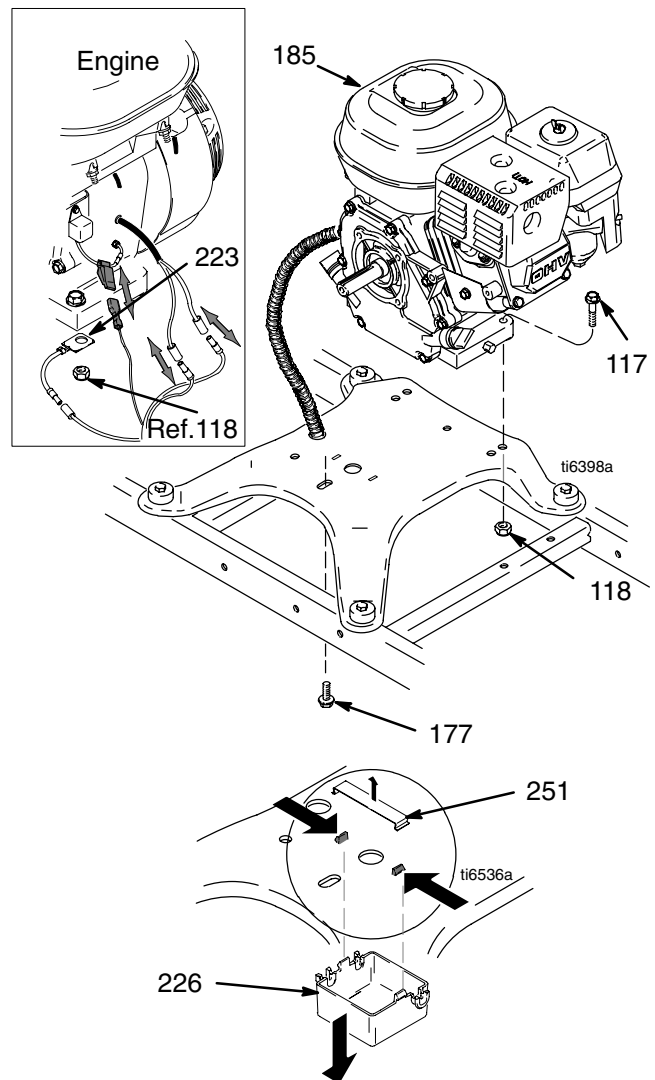

Fig. 12
2. Fig. 12. Remove clip (251) and junction box (226).
13. Fig. 12. Install junction box (226) with clip (251).
4. Fig. 12. Remove screw (177). Remove two screws (117), locknuts (118), and ground conductor (230, 260) from base of engine (185).
2. Fig. 12. Install two screws (117) and ground conductor (223, 260) in base of engine and secure with locknuts (118). Torque to 20 to 30 ft-lb.